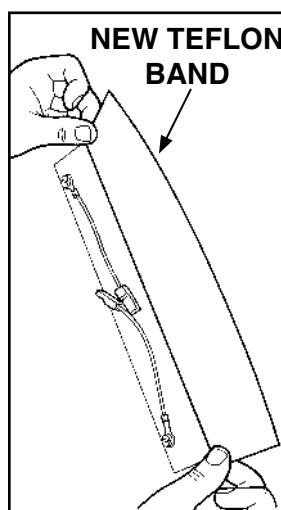

Fig. 2
- Insert the safety cap **D** in the central opening as shown in (**Fig. 2**).
- Fit a new band (**Fig. 2**), cutting the excess length at the two ends (**Fig. 3**).